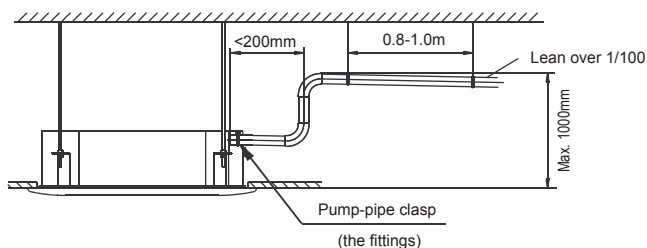

Fig. 6-2
7) In case the drainpipe outlet is higher than pumping connective pipe of the main body, the drainpipe must be arranged upwards vertically by using connective assembly of the water outlet for vertical bending, and the height of the drainpipe shall set to the defrosting pan surface no more than 1000mm, otherwise, too much backflow while shutdown would leads to overflow (Refer to Fig.6-2).